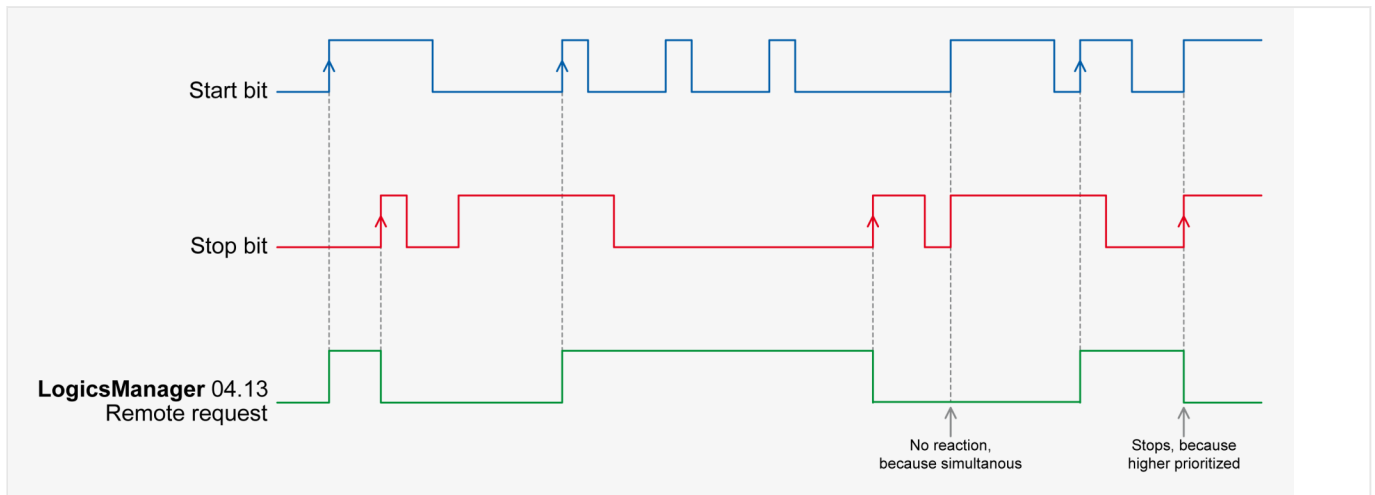

Fig. 275: Command variable
- The command variable "04.13 Remote request" changes to "0" (low) if the stop bit (ID 503, bit 1) changes from "0" to "1" (➡ Fig. 275).